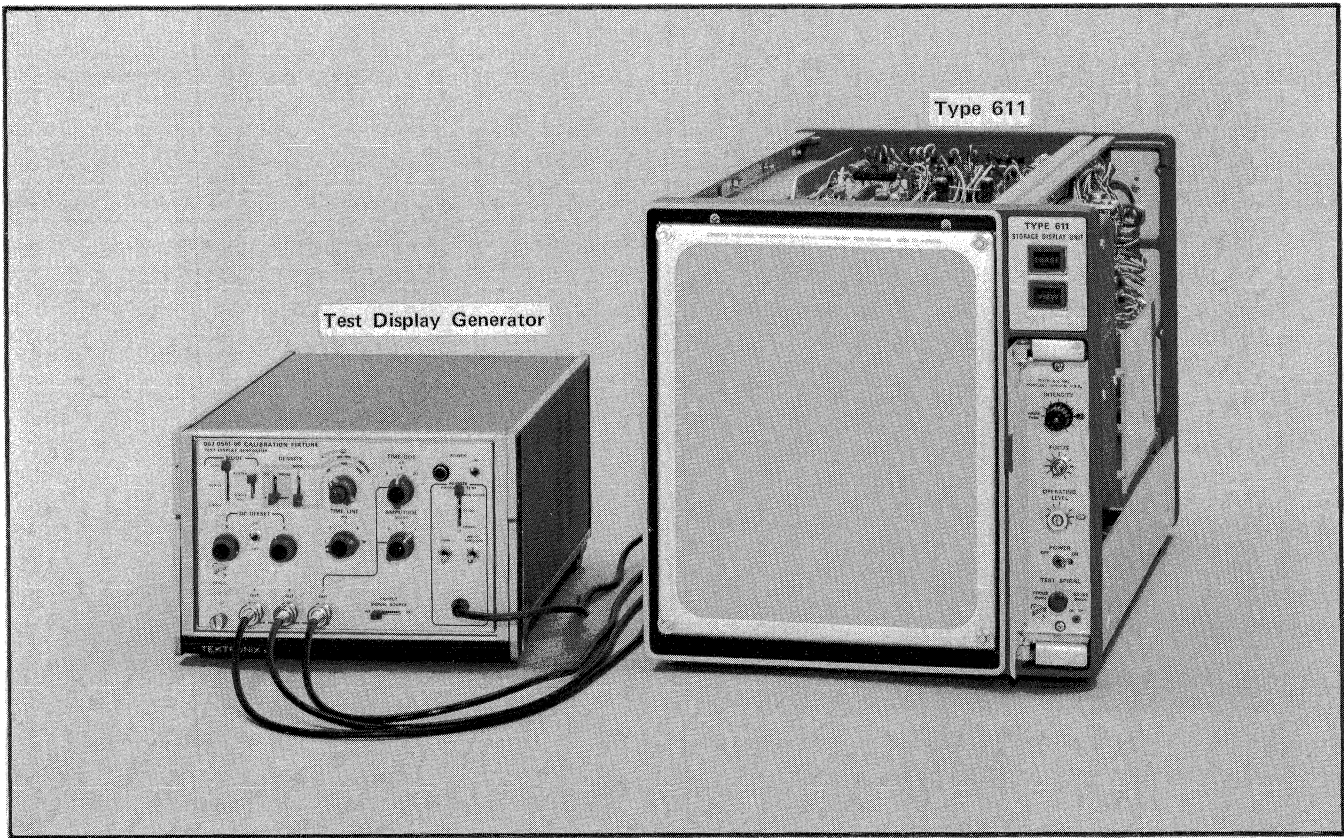

Fig. 5-17. Equipment setup for Line Straightness and Dynamic Focus calibration steps.
22. Check and Adjust Vertical Line Straightness (R227 and R238) ①
a. Test setup is shown in Fig. 5-17.